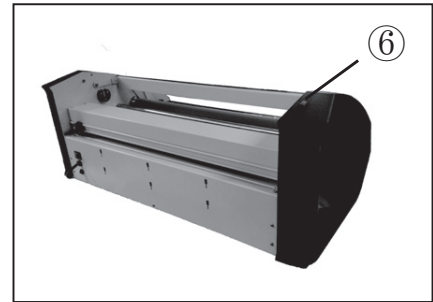

Figure 6
Emergency Switch (6) - To stop the machine in a emergency situation. (Fig. 6)
Refer to Figure 6.